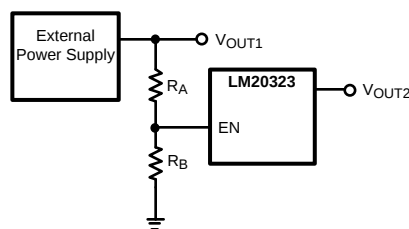

Figure 6. Sequencing LM20323 with Precision Enable
The LM20323 has an internal under-voltage lockout protection circuit that keeps the device from switching until the input voltage reaches 4.25V (typical). The UVLO threshold has 350 mV of hysteresis that keeps the device from responding to power-on glitches during start up. If desired the turn-on point of the supply can be changed by using the precision enable pin and a resistor divider network connected to V_{IN} as shown in Figure 6 in the design guide.
The precision enable (EN) and power good (PGOOD) pins of the LM20323 can be used to address many sequencing requirements. The turn-on of the LM20323 can be controlled with the precision enable pin by using two external resistors as shown in Figure 6 .